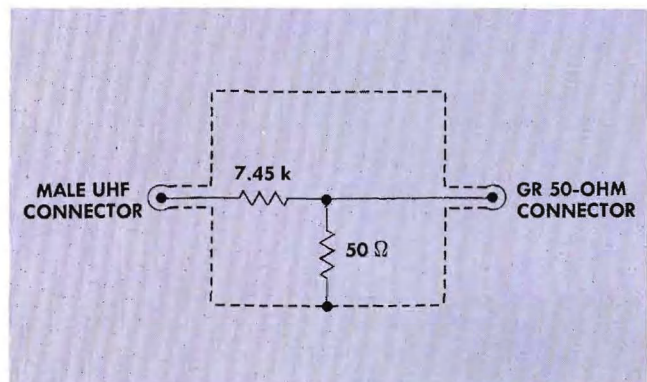

Fig. 6-1. 100-mv 50 Ω Calibrator Adapter circuit.
- (3) Tektronix Type 113 Delay Cable Unit or equivalent to provide 60 nsec of delay time. Risetime of the delay cable should be ≤ 0.1 nsec. (Not needed with Type 111 Pretrigger Pulse Generator).
- (4) Tektronix 1, 2, 5 and 10 nsec/cycle Timing Standard.
- (5) VTVM (preferred) or a 20,000 Ω /volt dc voltmeter.
- (6) The following coaxial cables are required:
- (7) 100-mv, 50 Ω Calibrator Adapter for the Type N Unit to provide a properly terminated 100-mv signal from the square-wave calibrator (or construct unit shown in Fig. 6-1).